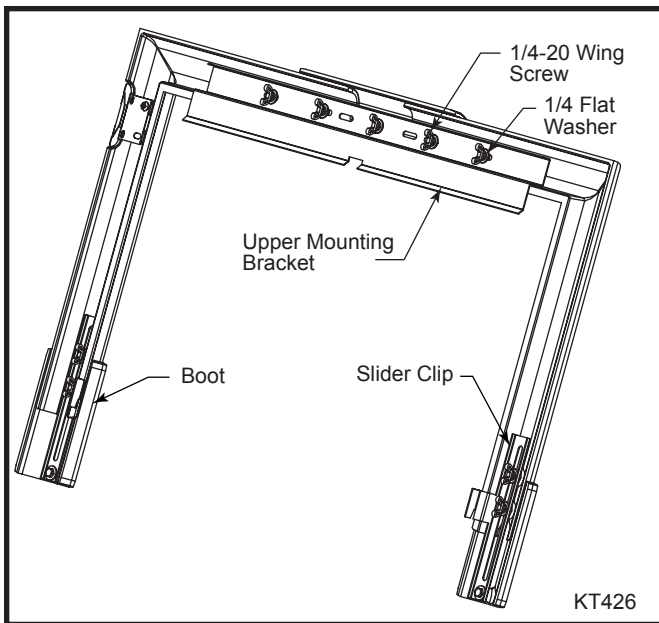

Fig. 3 Install upper mounting bracket.
4. Install the upper mounting bracket. Use the upper mounting bracket marked R (30002054) for the LHER20. Use the unmarked upper mounting bracket (30002053) for LHEC30 and LHEC20. (Fig. 3)
5. Fasten the upper mounting bracket to the key with a 1/4-20 wing screw and 1/4 flat washer finger tight. (Fig. 3)
6. Fasten the upper mounting bracket to both column assemblies using (2) 1/4-20 wing screws and (2) 1/4 flat washers per side finger tight. The distance between the insides of the columns should measure: